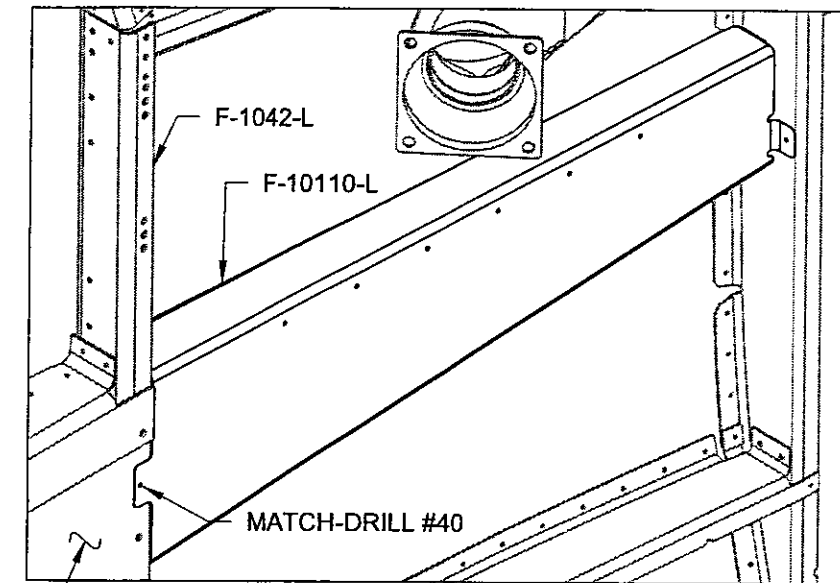

FIGURE 3: MATCH-DRILLING THE WIRE COVER, MID CABIN SIDE COVER AND BULKHEAD SIDE CHANNEL
Step 4: Install the F-10110-L Wire Cover Assembly as shown in Figure 3 with the aft tab on the inboard side of the F-1015D-L Mid Cabin Side Cover. Match-Drill the mid cabin side cover and the F-1042-L Bulkhead Side Channel using the hole in the aft tab of the wire cover assembly as a guide.